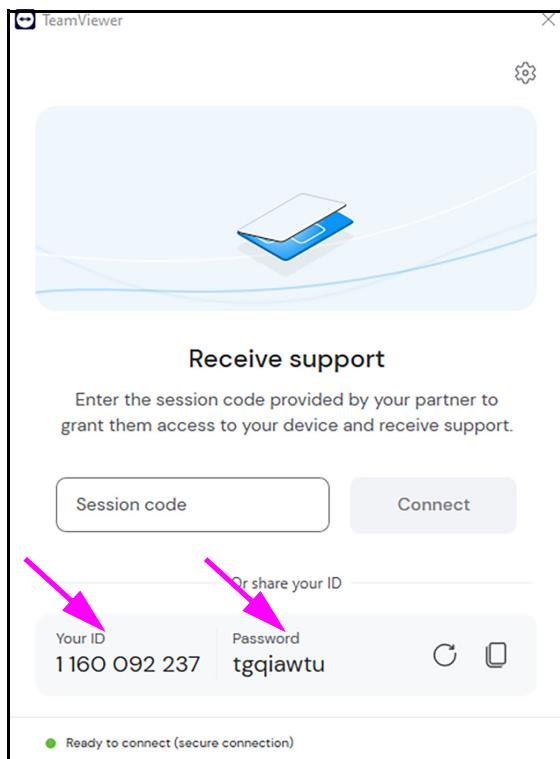

Figure 8-7. TeamViewer Receive Support Window
6. Provide Your ID and Password to Alamar Technical Support (see Figure 8-7). This will allow them to connect to your instrument.